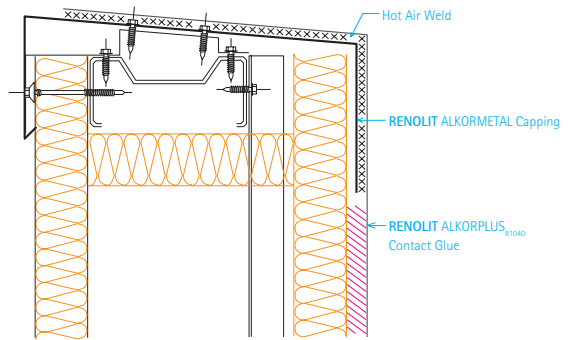

fig. 5: Double-sided gluing of parapets
• Parapets can also be adhered to achieve a wind-tight detail. (See fig. 5) Here, the **RENOLIT ALKORPLUS₈₁₀₄₀** contact glue is applied to the entire surface of both membrane and upstand with a minimum consumption of 2 x 150 g/m². The parapet will have an **RENOLIT ALKORPLAN** metal trim, but compressive foam and intermediate fastening can be omitted.